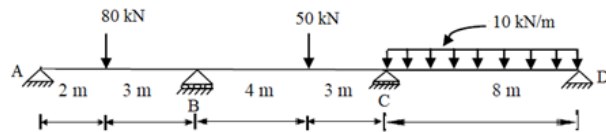

Figure 8
- (b) Analyse the continuous beam ABCD shown in Figure 8 using Clapeyron's theorem of three moments. Draw shear force and bending moment diagrams, if support B sinks by 10 mm. Moment of inertia of the whole beam = $85 \times 10^6 \text{ mm}^4$ and $E = 2.1 \times 10^5 \text{ N/mm}^2$. [7M]